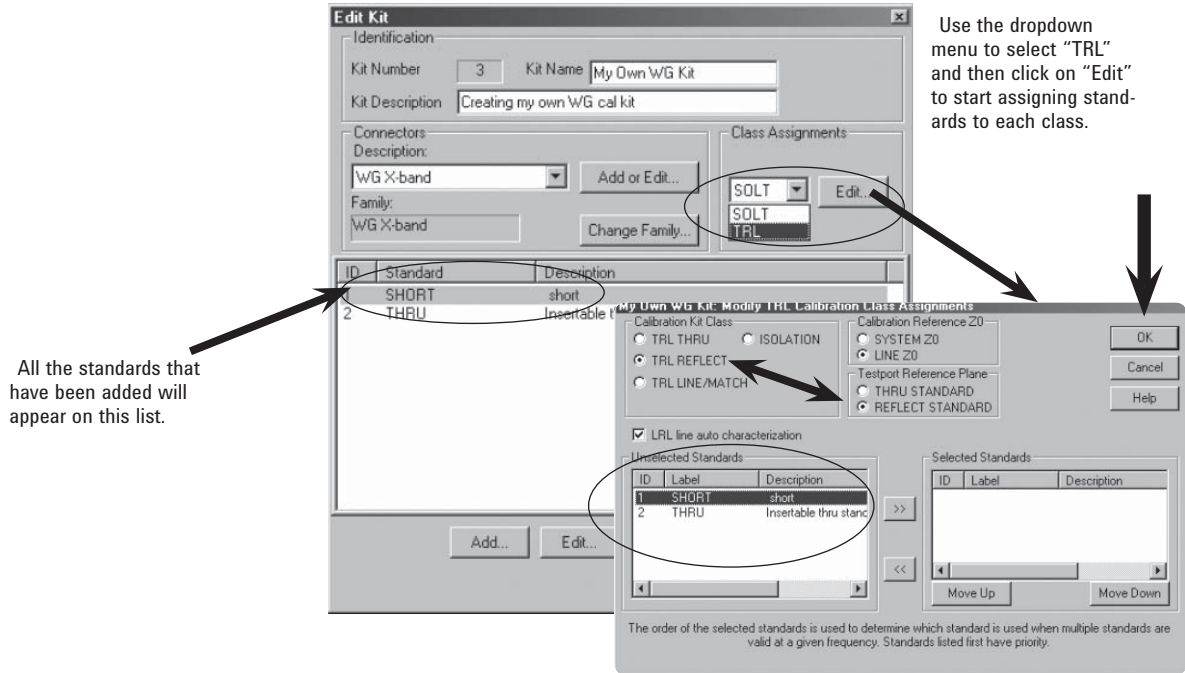

Figure 33. Assigning standards to class TRL.
6. After all standards have been added, click **OK** on the “Add Standard” page to return to the “Edit Kit” page. All the standards that have been added should appear in the table (Figure 33, left). Now, under “Class Assignments”, use the drop down menu to select “TRL” (or “SOLT”) and then click on **Edit**. This brings up the “Class Assignments” page, Figure 33 (right) shows “Class Assignments” for TRL. For each “Class” selected, highlight the standard on the left, and then click on the “>>” button in the middle, to move the standard to the right under “Selected Standards.”